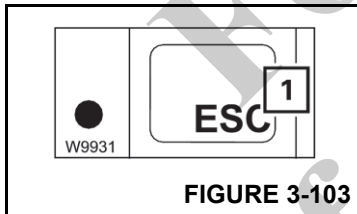

FIGURE 3-103
Press the **Esc** button (1) (Figure 3-103) once.